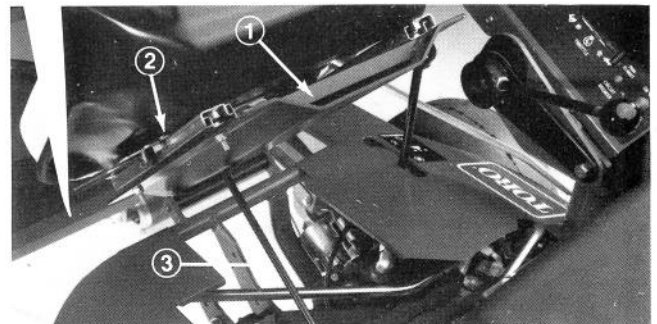

Figure 5
2. Secure seat slides to seat with (4) 5/16 - 18 x 5/8 in. hex socket capscrews and washers. Position seat slides so slide adjuster is to outer left side of seat. Move slide forward and rearward to gain access to mounting holes.
3. Secure seat and seat slides to seat support with previously removed locknuts (Fig. 5).